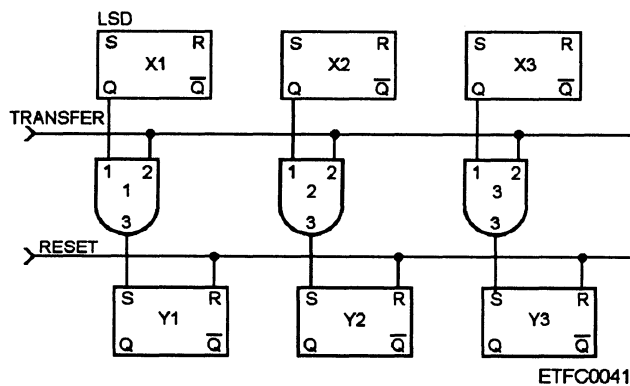

Figure 4-24.—Example of a single-line parallel one-side transfer.
- Single-line parallel transfer (direct method)—Only 1's or 0's are moved in a bit-for-bit, order-for-order method. The receiving register is cleared of its contents before the transfer occurs. If 1's are transferred, it is referred to as a one-side transfer. If 0's are transferred, it is referred to as a zero-side transfer. See figures 4-24 and 4-25 as examples.